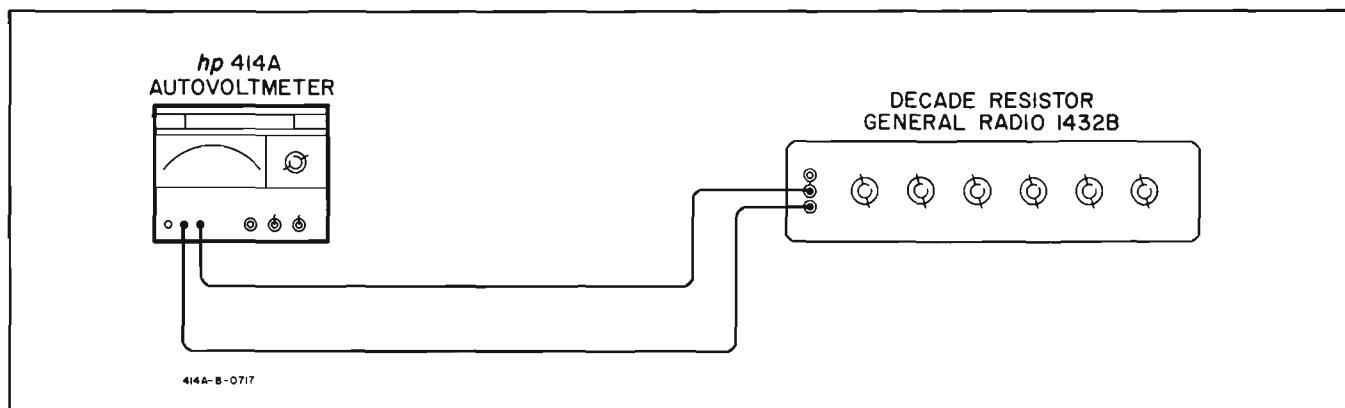

Figure 5-2. Ohmmeter Check and Calibration
- Connect OHMS and COM probes to resistance box as shown in Figure 5-2.
- Connect the resistance box to COM and OHMS probes as shown in Figure 5-2.